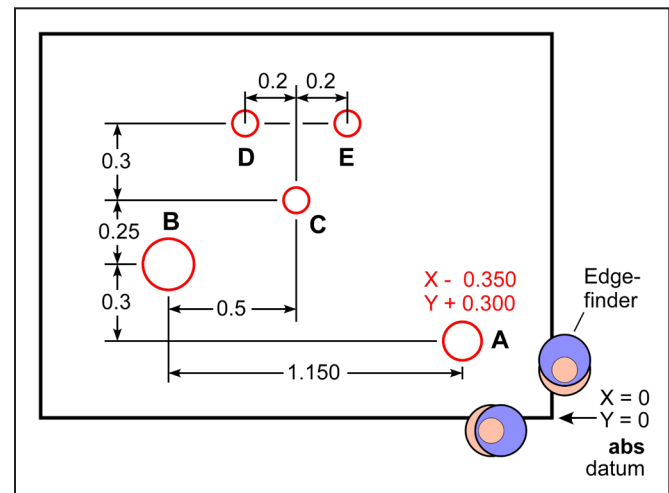

Figure 3 Using **abs** and **inc** modes
1. Select a workpiece datum. In Figure 3 the bottom right hand corner has been “found” in the **abs** mode, and the XY coordinates have been set to zero.